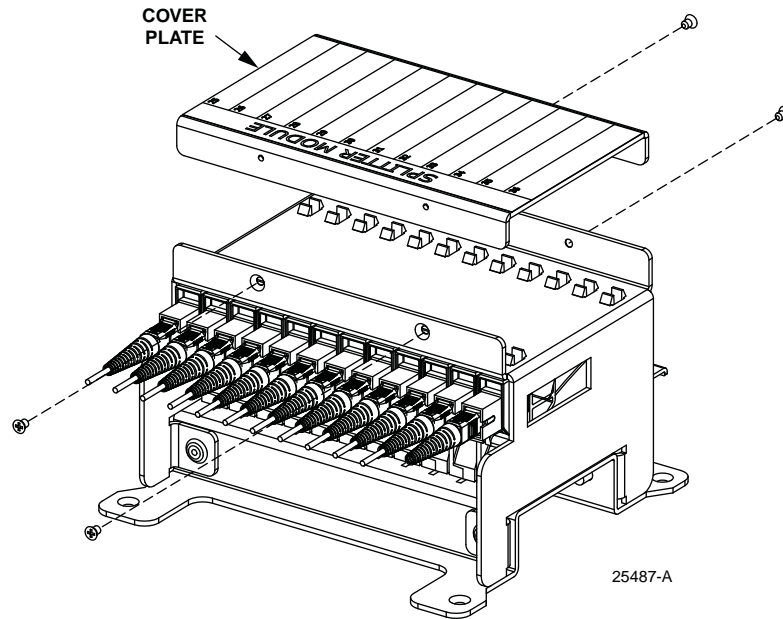

Figure 37. Removing the Cover Plate
4. With a screw driver, remove four upper screws and cover plate as shown in Figure 37.